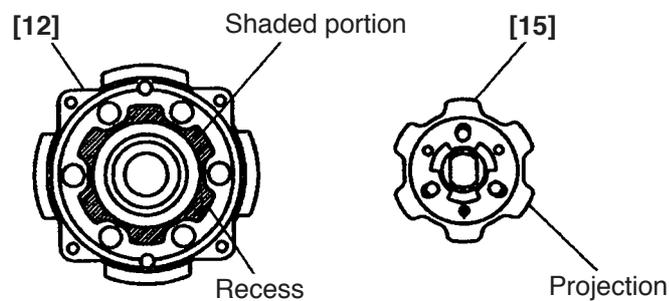

Fig. 9
① Apply grease approx. 1.2 g (Hitachi Motor Grease No. 29) to the shaded portion in the Front Case [12] (See Fig. 9).
② When installing the Lock Ring [15] into the Front Case [12], assemble so that the projections on the Lock Ring [15] engage with the recesses in the Front Case [12]. Make sure that the flat plane of Lock Ring [15] faces the Front Case [12] (see Fig. 9).